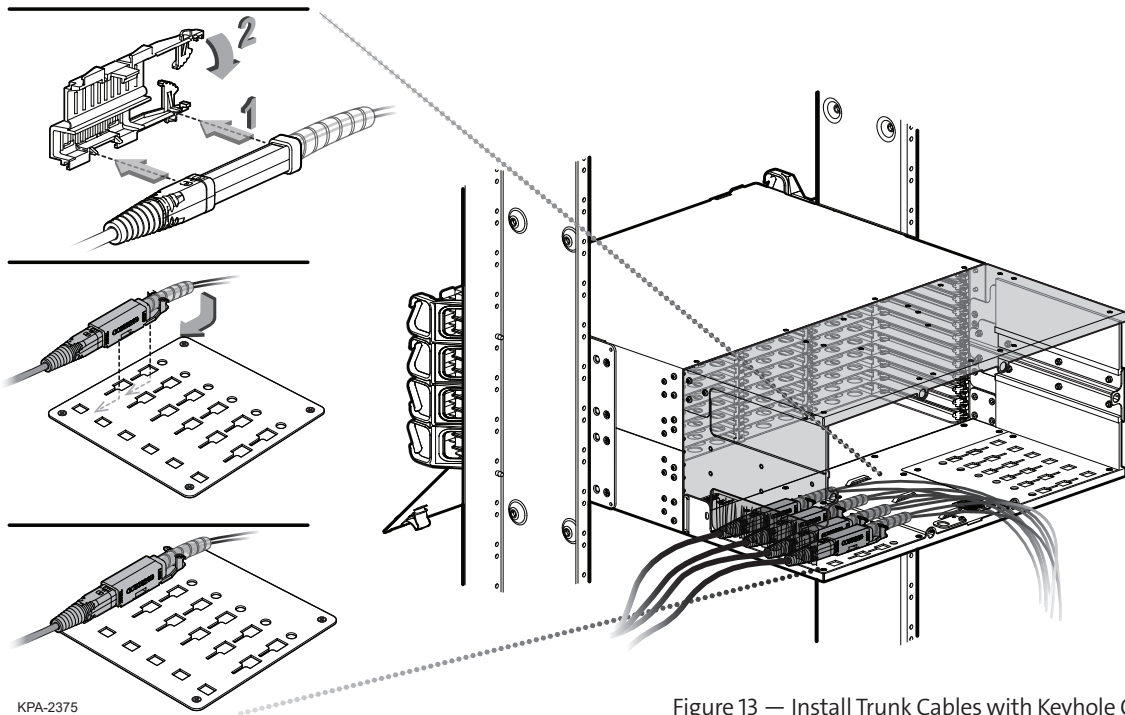

Figure 13 — Install Trunk Cables with Keyhole Cradle
Step 3: Insert furcation plug into cradle as seen in Figure 12 or Figure 13 and mount cradle onto CDF bracket (Figure 11).
Step 2: Open cradle provided inside the reel and press each trunk cable furcation plug into cradle (Figure 12 - double-stack cradle or Figure 13 - single-stack cradle).
Step 3: Insert cradle feet into backplate as shown in Figure 13 or Figure 14 for your cradle type.